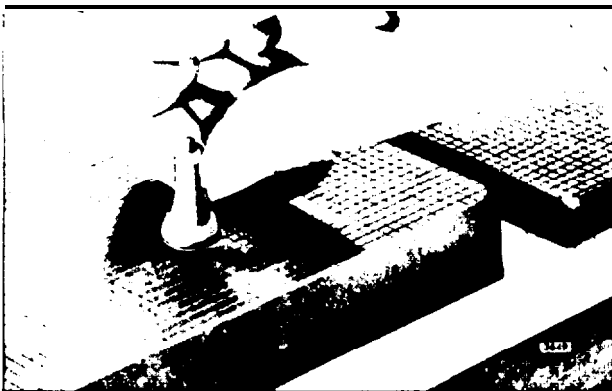

Fig. 33 - Lapping Spray Tip on Lapping Blocks
3. Place the part to be lapped flat on the block as shown in Fig. 33 and, using a figure eight motion, move it back and forth across the block. Do not press on the part, but use just enough pressure to keep the part flat on the block. It is important that the part be kept flat on the block at all times.